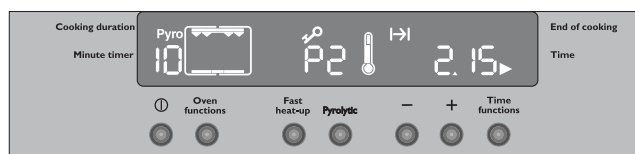

Fig. 23
5. After some time, the door lock will be activated and the related symbol  will be displayed (Fig. 23). At this time the Oven functions button is no more active.